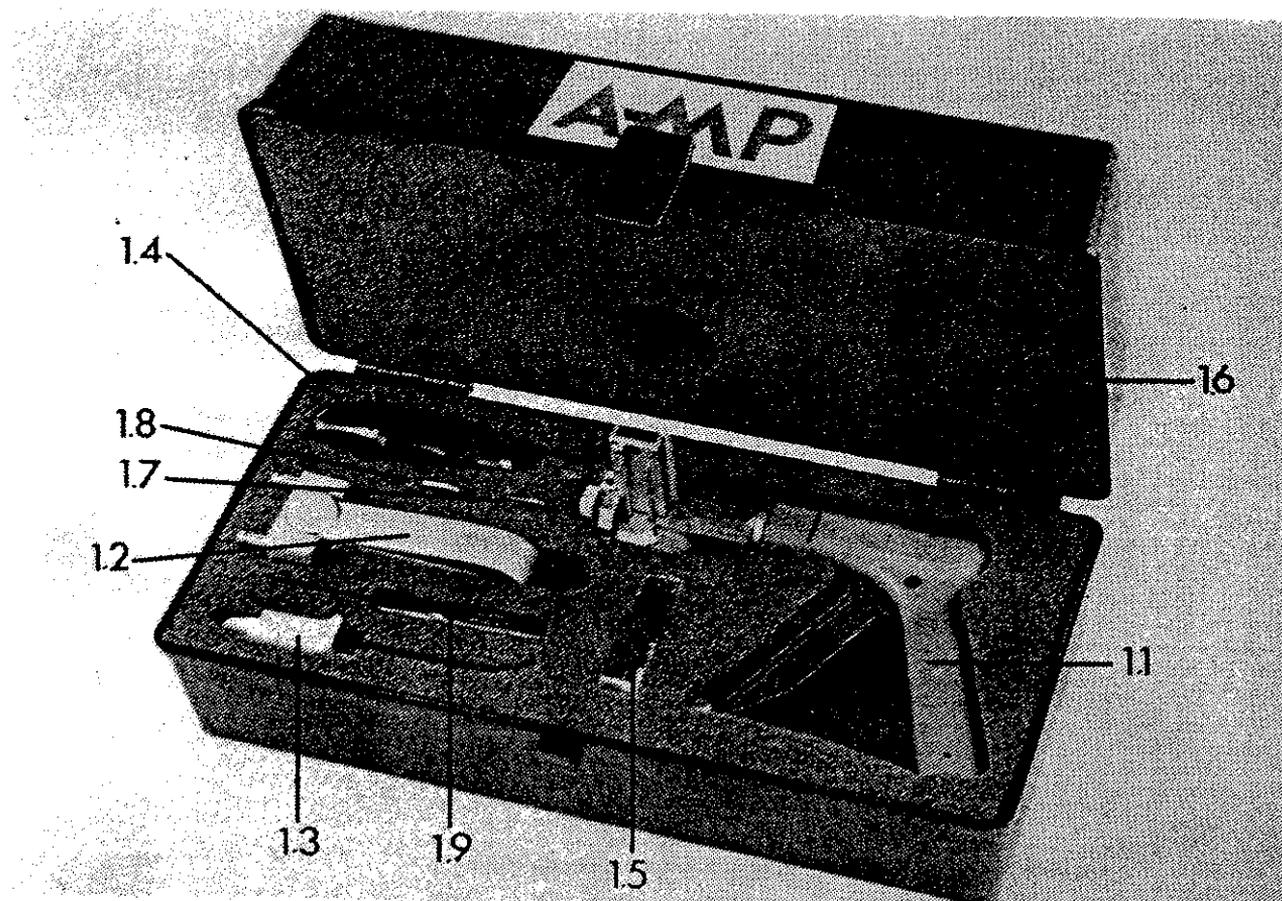

Figure 1
2. CONTENU DU COFFRET (Figure 1)